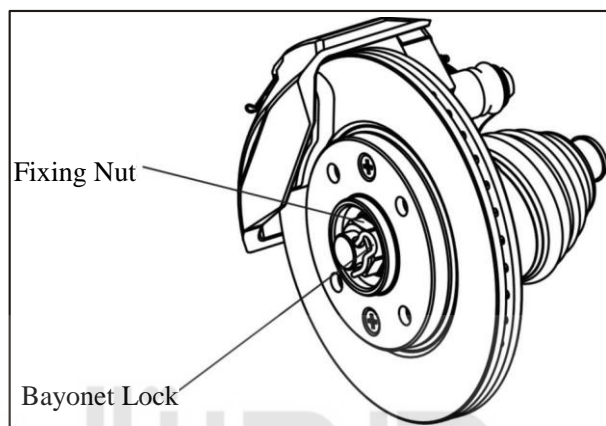
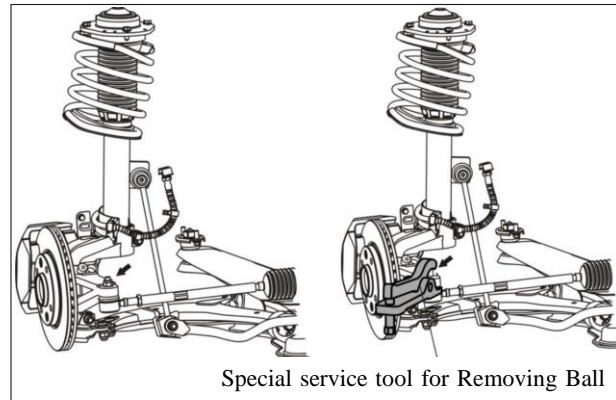

Figure 4-7 Fix Wheel Hub and Dismantle End Nut
Figure 4-10 Remove tie rod end pin nut
- (1) Loosen the front wheel bolt.
- (2) Lift up and block up the front of the vehicle.
- (3) Remove the wheel.
- (4) As indicated in Figure 4-7, remove the drive shaft end fixing nut.
- (1) Loosen the tire bolt.
- (2) Elevate and block up the vehicle, and remove the front wheel.
- (3) Fix the wheel hub with the tool fixing bracket (as shown in Figure 4-7), and then screw off the drive shaft end fixing nut.
- (4) Screw off the bolts used to fix the brake lining wearing signal lamp harness fixing bracket, and then remove the fixing bracket.
- (5) As indicated in Figure 4-10, remove the tie rod end pin nut, and then remove the tie rod end ball connector with the special service tool (ball pin remover).